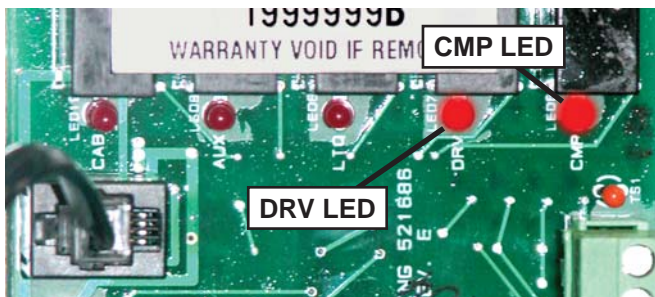

Figure 6-4 IntelliTec LEDs
2. Check for a signal going to contactor. When the spigot is opened or the Push To Freeze button is pressed, the DRV LED on the control board will light up. After three seconds, the CMP LED will light up (Refer to Figure 6-4). If the LEDs do not light up, refer to Section 7 Troubleshooting.